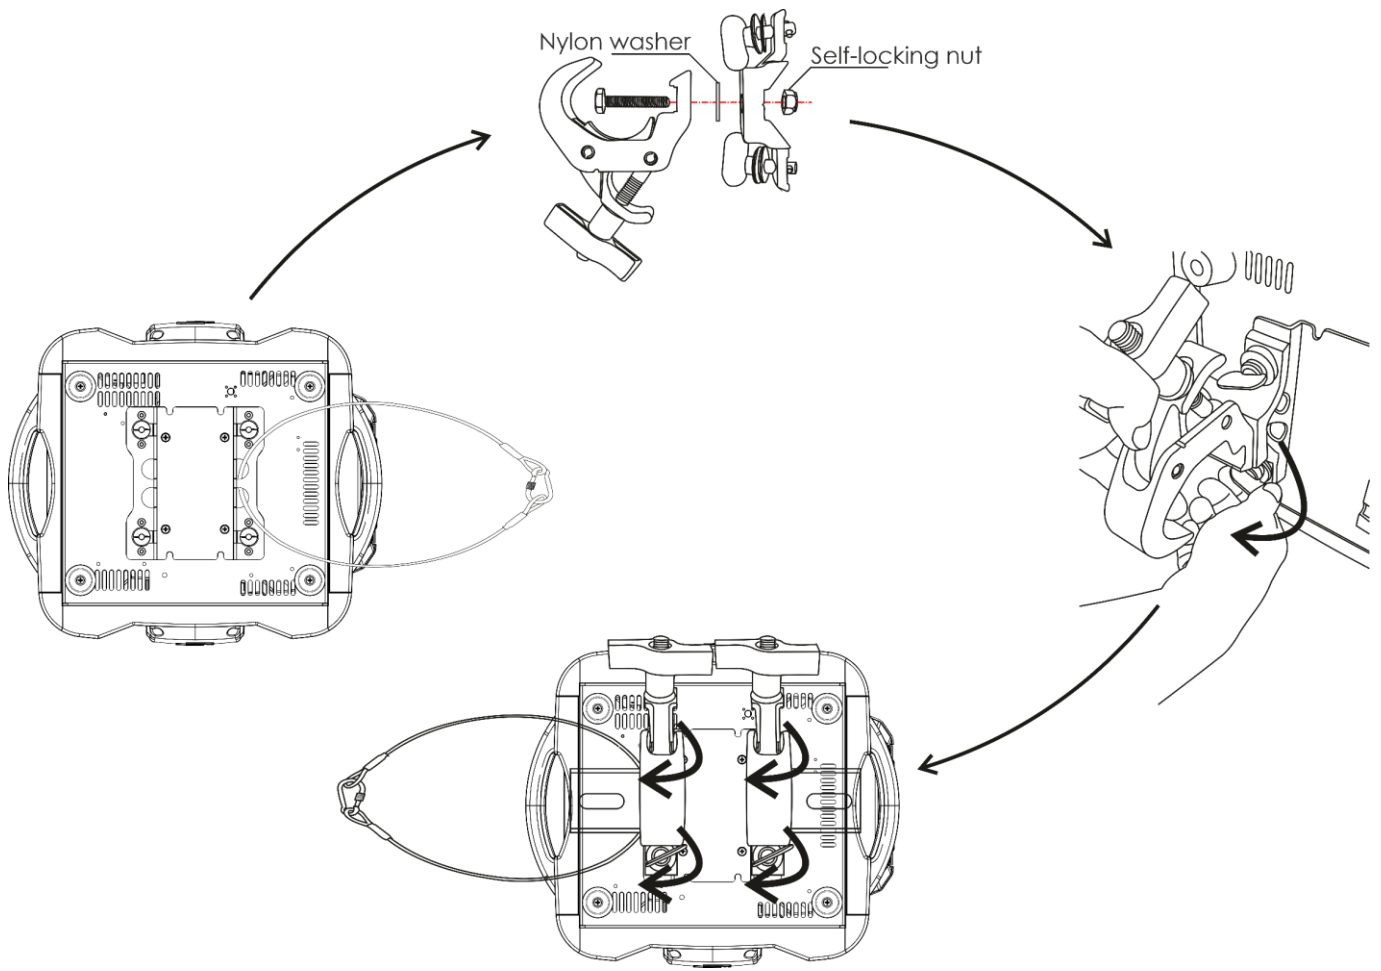

Fig. 08
- 01) Fasten the 2 quick lock brackets, supplied with the device, on the **mounting holes for quick lock brackets (15)**.
- 02) Install the clamps, as shown in Fig. 08. Make sure that you use clamps suitable for attaching the device to a truss.
- 04) Secure the device with a secondary suspension, for example a safety cable. Make sure that the secondary suspension can hold 10 times the weight of the device. If possible, the secondary suspension should be attached to a supporting structure independent of the primary suspension. Put the safety cable through the **safety eye (14)**, as shown in Fig. 08.